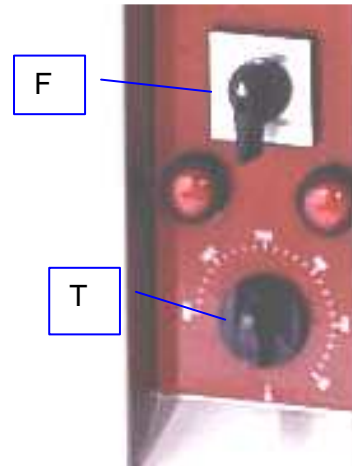

Figure 2
- Turn control knob (mark F, figure 2) to the desired heating position (VAULT, VAULT + MILD STEEL BASE, MILD STEEL BASE): the ON indicator is alight.
- Turn thermostat (mark T, figure 2) to the desired temperature: The temperature regulation indicator is alight.